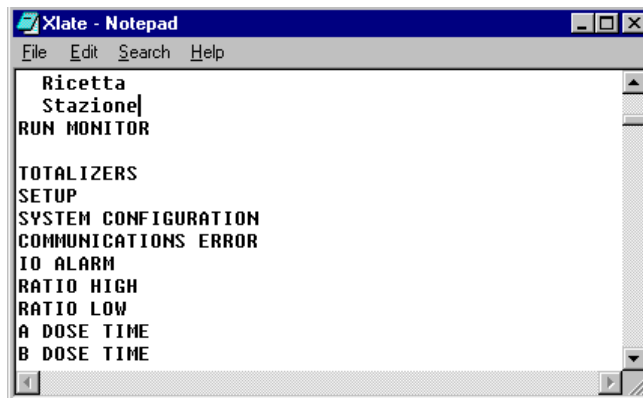

Fig. 13.54
- Open the text file and replace the English text with the desired translation. See Fig. 13.54.